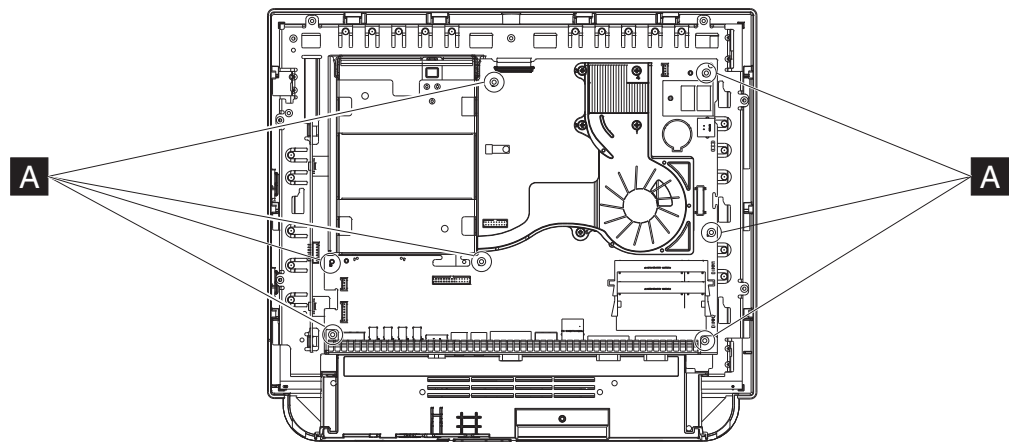

Figure 29. Removing the system board
5. See Figure 29 and remove the 7 captured screws (**A**) that hold the system board.